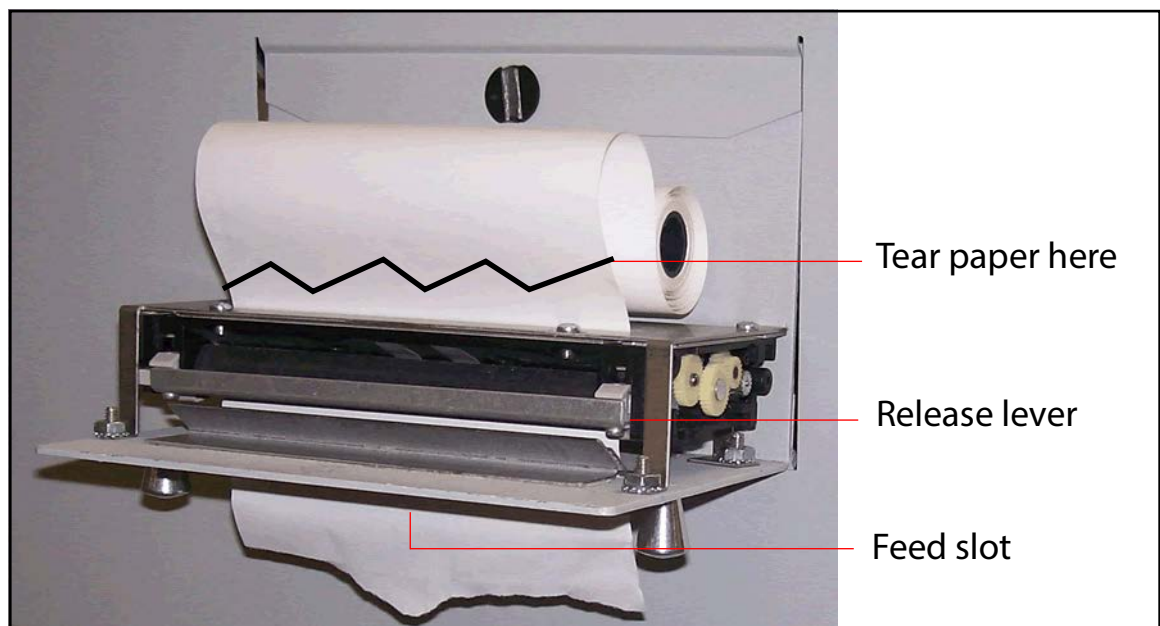

Figure 7-2: Paper removal
- b. Tear or cut the paper as shown in Figure 7-2 and lift the old roll out of the printer.
4. Place a new roll of paper on the metal shaft and install the roll in the printer so that the paper will feed from the top of the roll (see Figure 7-2). The paper will automatically feed into the printer.